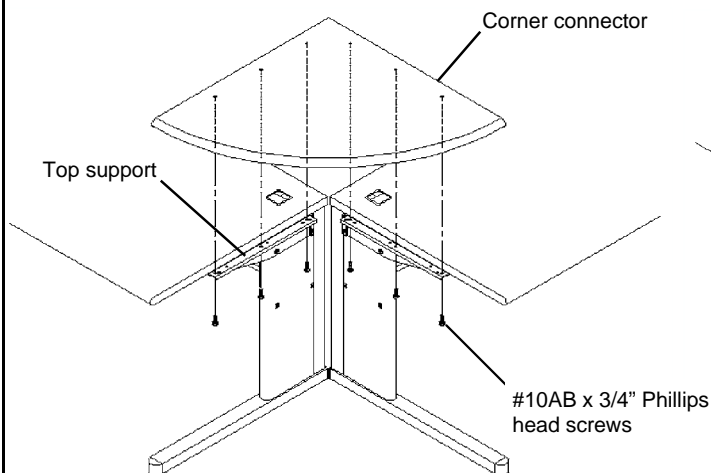

Figure 2
4. Align the top edges/surfaces as necessary and fasten the Corner Connector in place using the #10AB x 3/4" Phillips head screws. See **Figure 2**. **Do not** tighten at this time.